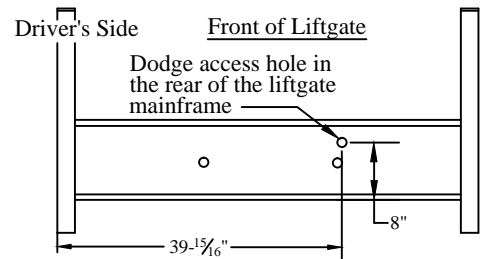

Figure 16: Spare tire access.
2. **Remove** the black plastic plug from the mainframe in the locations shown (Figure 16).